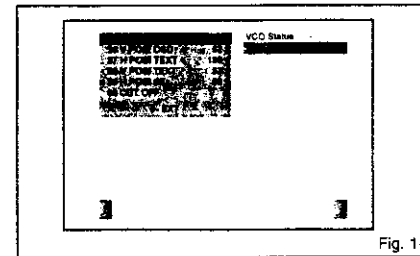

Fig. 1-1
2. Press the VOL. DOWN button on the set and the channel button (9) on the remote control for more than 1 second to display adjustment mode on the screen as shown in Fig. 1-1.
3. Activate the adjustment mode display of Fig. 1-1 and press the channel button (13) on the remote control to select "VCO COARSE".
4. Activate the adjustment mode display of Fig. 1-1 and press the channel button (01) on the remote control to select "RF AGC".
3. Activate the adjustment mode display of Fig. 1-1 and press the channel button (08) on the remote control to select "H POSI 50".
7. Activate the adjustment mode display of Fig. 1-1 and press the channel button (39) on the remote control to select "H POSI 60".
3. Activate the adjustment mode display of Fig. 1-1 and press the channel button (09) on the remote control to select "V POSI (50)".
4. Check if the step No. V.POSI (50) is "10".
7. Activate the adjustment mode display of Fig. 1-1 and press the channel button (10) on the remote control to select "V POSI (60)".
8. Check if the step No. V.POSI (60) is "05".
3. Activate the adjustment mode display of Fig. 1-1 and press the channel button (11) on the remote control to select "V SIZE 50".
8. Activate the adjustment mode display of Fig. 1-1 and press the channel button (12) on the remote control to select "V SIZE 60".
2. Activate the adjustment mode display of Fig. 1-1 and press the channel button (35) on the remote control to select "H POSI OSD".
4. Activate the adjustment mode display of Fig. 1-1 and press the channel button (00) on the remote control to select "CUT OFF".